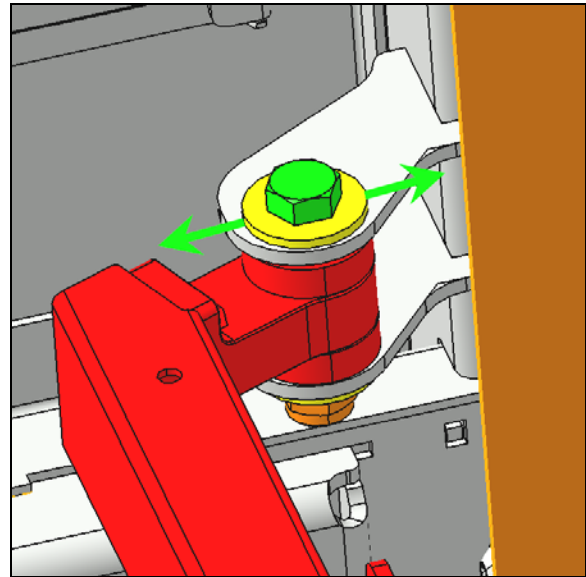

FIGURE 112
8. If the longitudinal position is out of tolerance, adjust using the adjustment provided on the lower attachment point of the arm on the vehicle chassis (FIGURE 112).